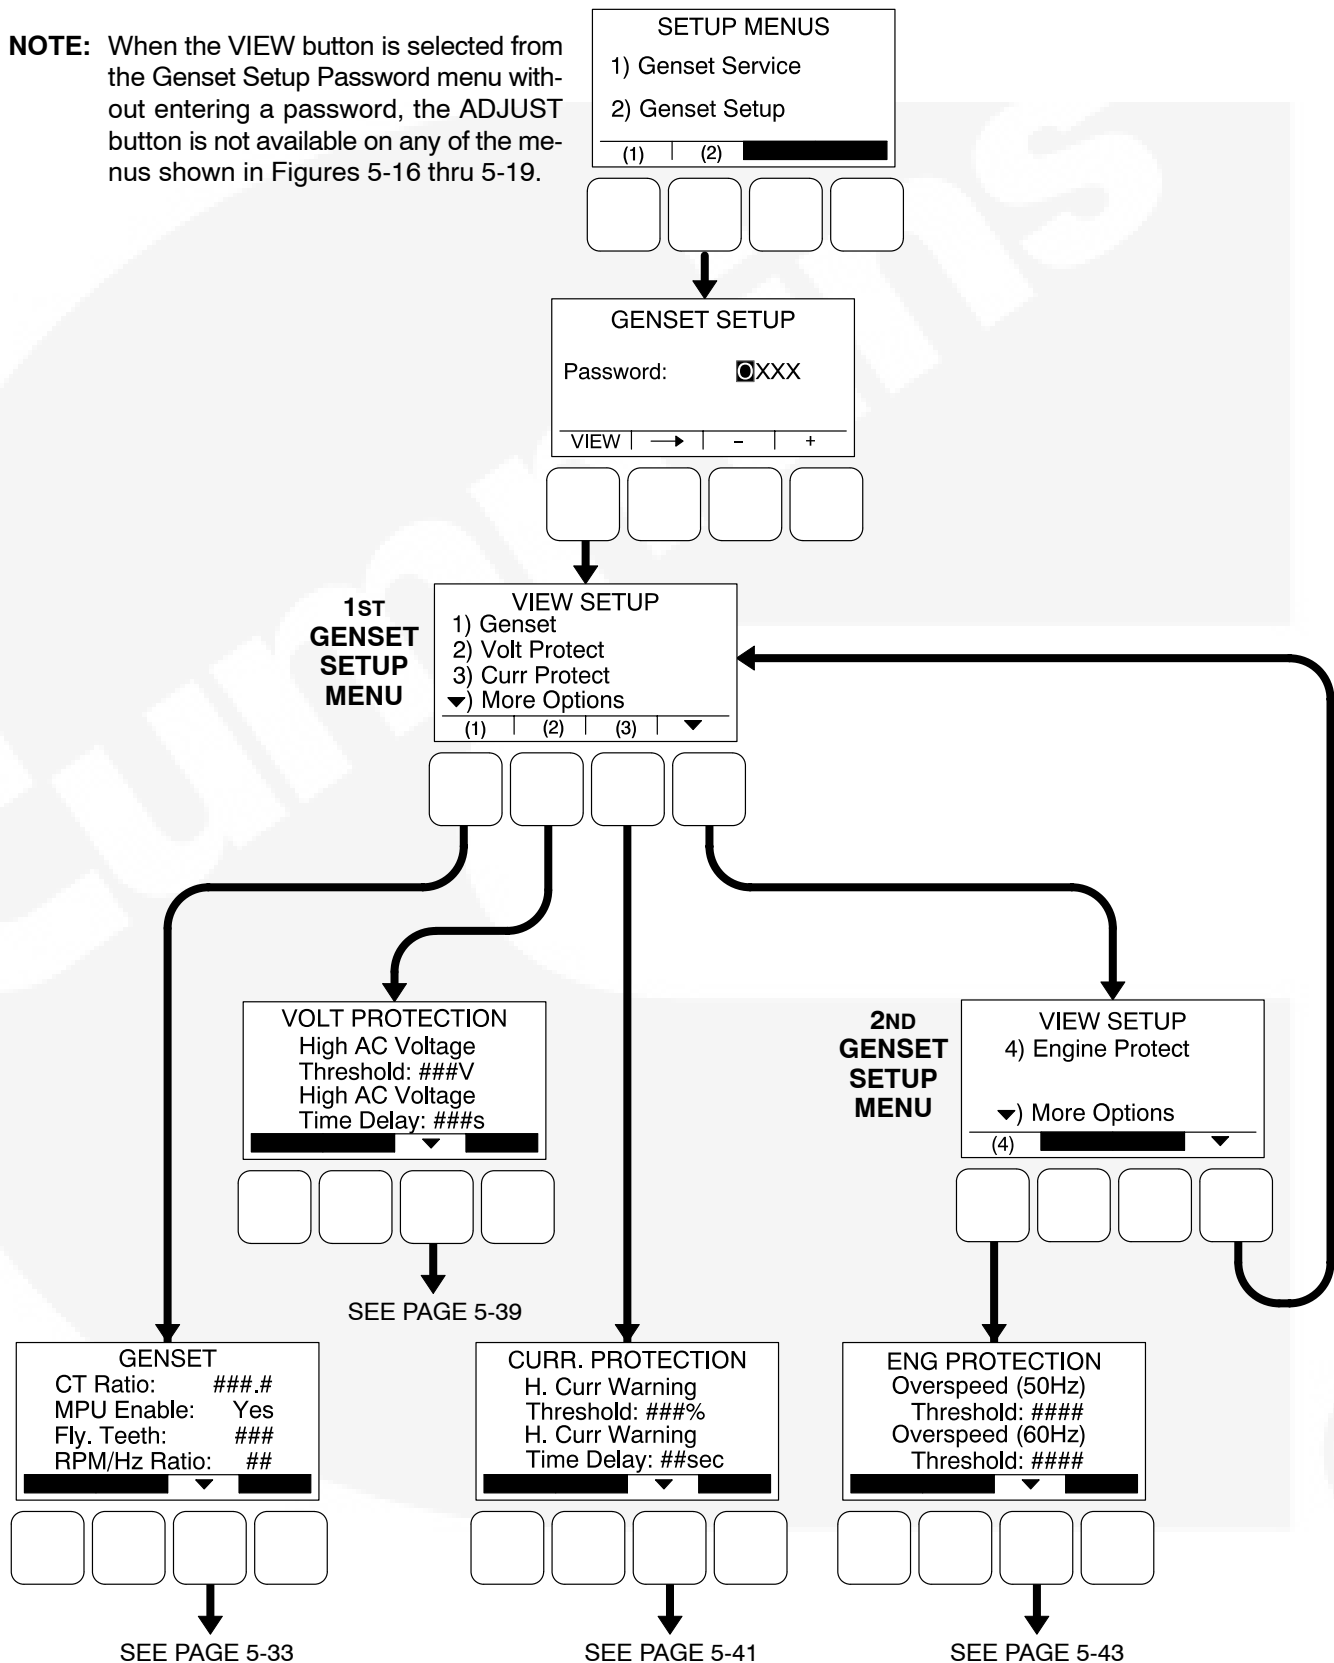
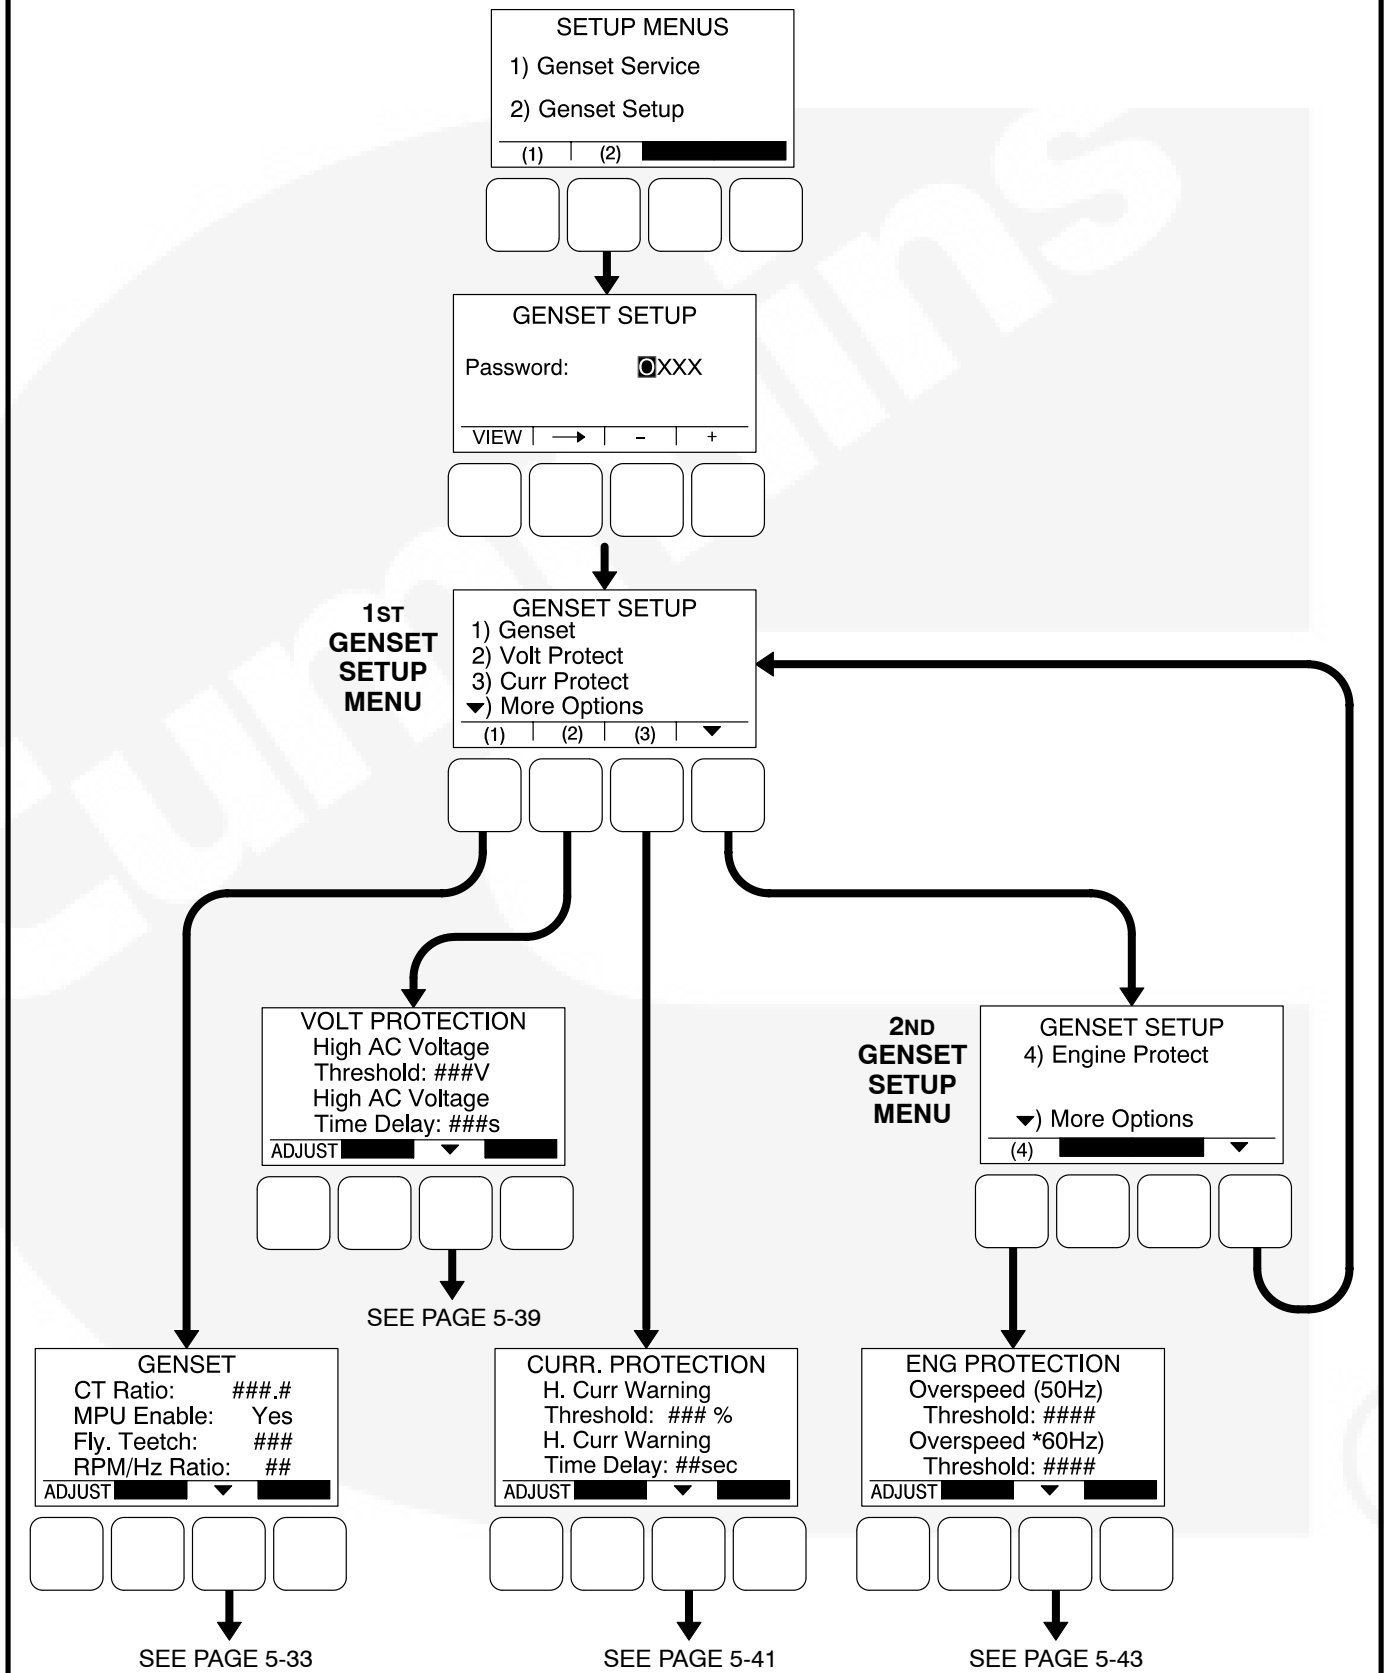

FIGURE 5-14. GENSET SETUP MENUS (VIEWING ONLY)
FIGURE 5-15. GENSET SETUP MENUS (VIEWING AND ADJUSTING)
Figure 5-14 is a block representation of the Genset Setup menus that are available when a password is not entered (or an incorrect password is entered) in the Genset Setup Password menu.
Figure 5-15 is a block representation of the Genset Setup menus that are available after the correct password has been entered in the Genset Setup Password menu. The **ADJUST** button is available on these submenus; therefore, adjusting the settings is allowed.
When the Genset Setup Password menu is displayed, the first numeric character (0) is highlighted (see Figure 5-15).
The Genset submenus are available by pressing the **(1)** button on the first Genset Setup menu (see Figure 5-14 or Figure 5-15).
The Voltage Protection submenus are available by pressing the **(2)** button on the first Genset Setup menu (see Figure 5-14 or Figure 5-15).
The Current Protection submenus are available by pressing the **(3)** button on the first Genset Setup menu (see Figure 5-14 or Figure 5-15).
The Engine Protection submenus are available by pressing the **(4)** button on the second Genset Setup menu (see Figure 5-14 or Figure 5-15).